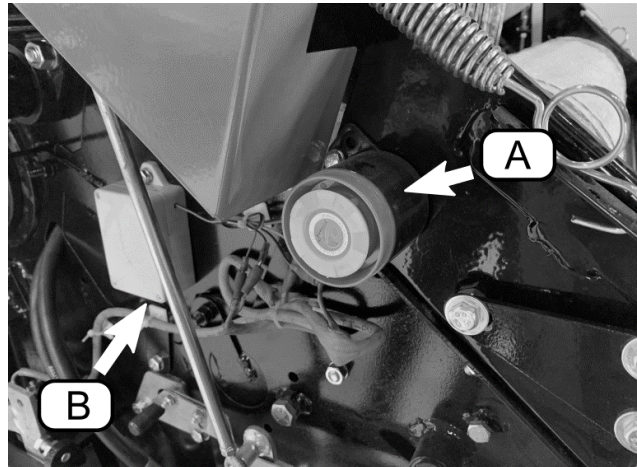

Figure 10 Top right side of baler
The full chamber horn (Figure 10, A) sounds when the bale chamber is full. It is powered by a 9V battery (B).